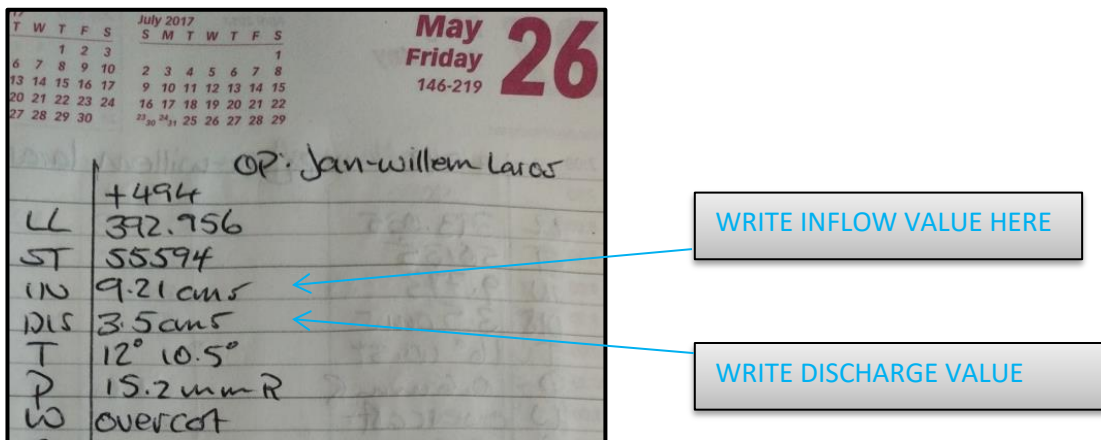

Fig 8
- Once inputted to the computer, write the discharge value in the daily log beside “**DIS**” (Fig 8).